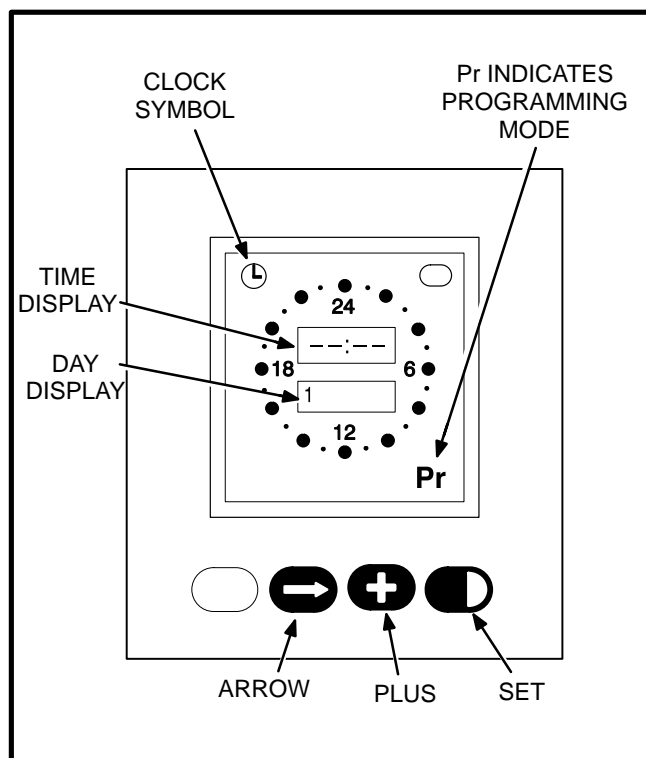

FIGURE 1. EXERCISER/CHANGEOVER CLOCK
1. With the clock powered, press all three buttons simultaneously to reset the time. The time display area will show (- - : - -) and a small clock symbol will appear in the upper left-corner of the display. Refer to Figure 1.